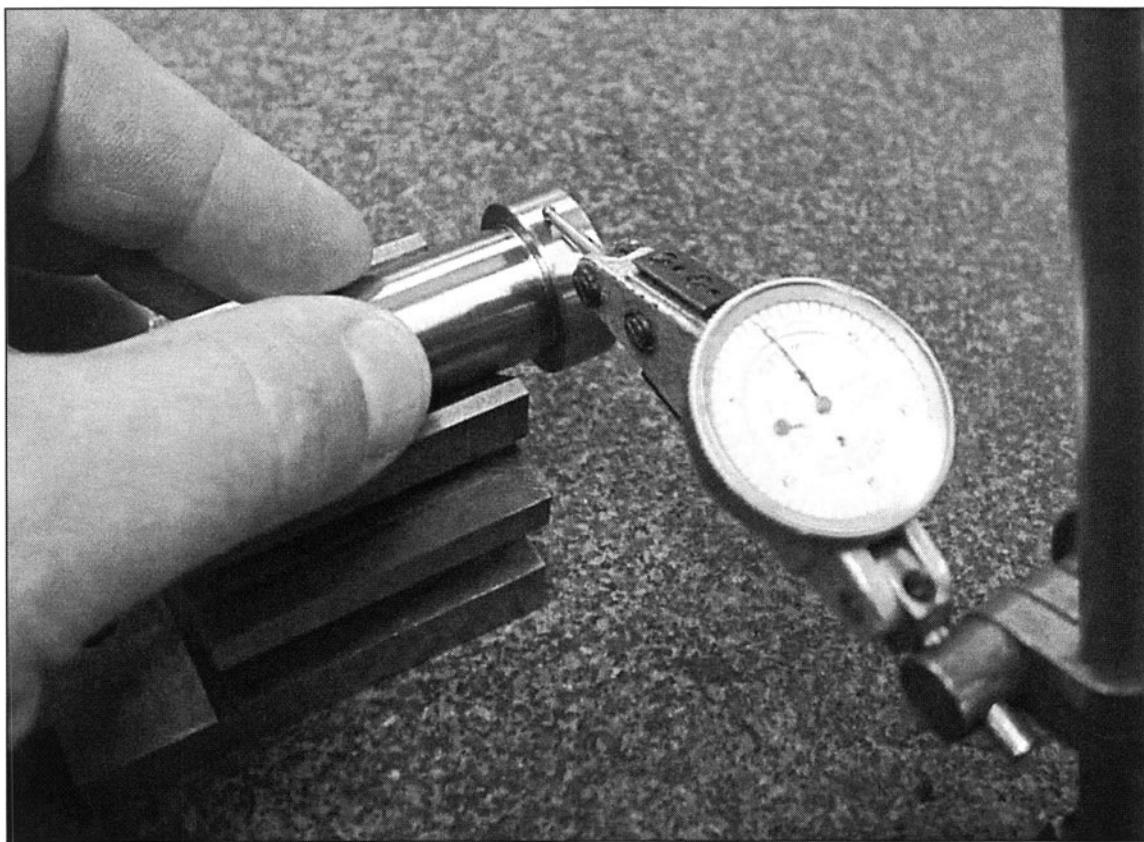

FIGURE 13-7 A circular feature is checked for concentricity by rotating the part in a V-block while indicating the feature.
14. *Check features on core pins for concentricity in a V-block. (See Fig. 13-7)*